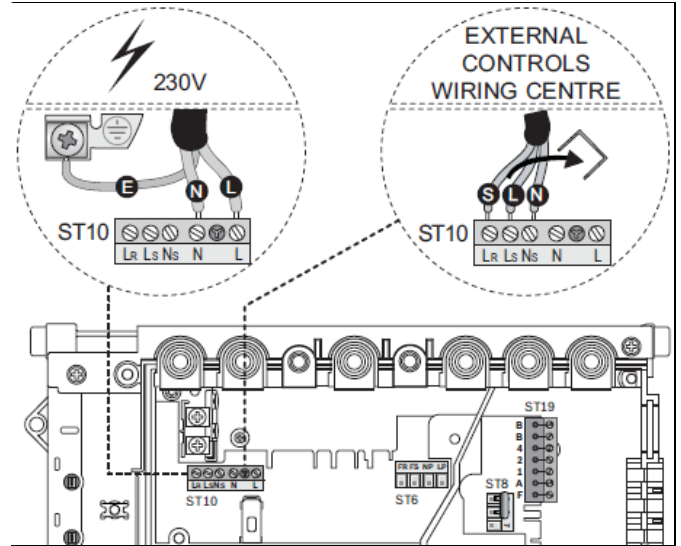

Fig. 3) Greenstar CDi System Demand connection
- All appliances require a permanent 3A fused live supply; with external controls being wired from the boiler's **L_s** & **N_s** terminals, and not from a separate power source (see Fig. 3).